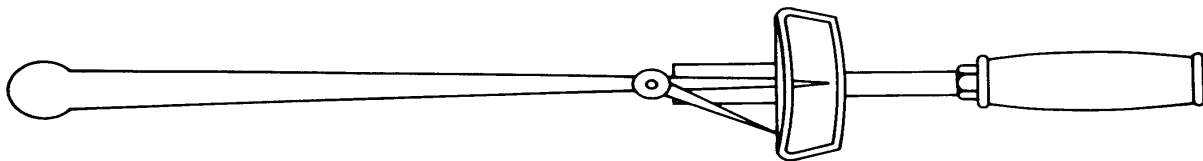

Figure 2. Type I, class 1, style B torque wrench, deflecting beam with indicator plate (direct reading with audible signal).
**Torque Wrench, Direct Reading with Audible Signal:** (figures 2, 4, and 6). Adjust trigger finger of sensory signaling mechanism on TI to point selected in (1) above. The pointer tip and not the trigger finger is the reference which must be used when adjusting the sensory signaling mechanisms. Gradually apply perpendicular force on handle of TI until sharp audible sound is heard and an impulse is felt in hand. Stop applying force at this point.